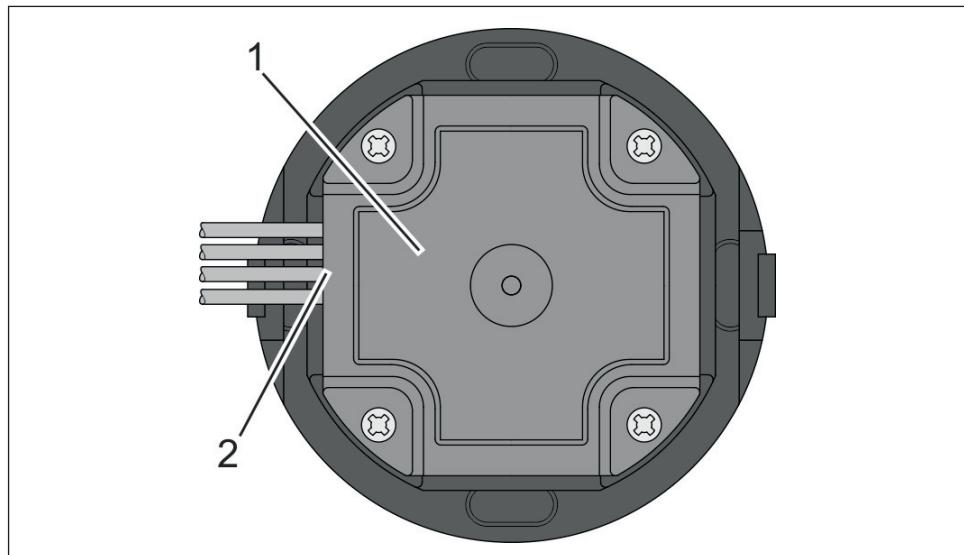

Fig. 14: Back of WR 200 reader with cable
4. Screw the accompanying cover to the back of the reader (Fig. 14/1). Lead out the leads to the padded cable guides at the side (Fig. 14/2).